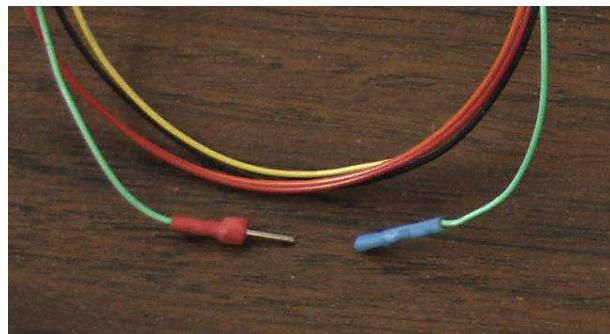

Figure 7-7 Disconnect Programming Enable Connection
6. Plug the 5 pin Molex connector into port A on the autopilot (See Figure 7-7)